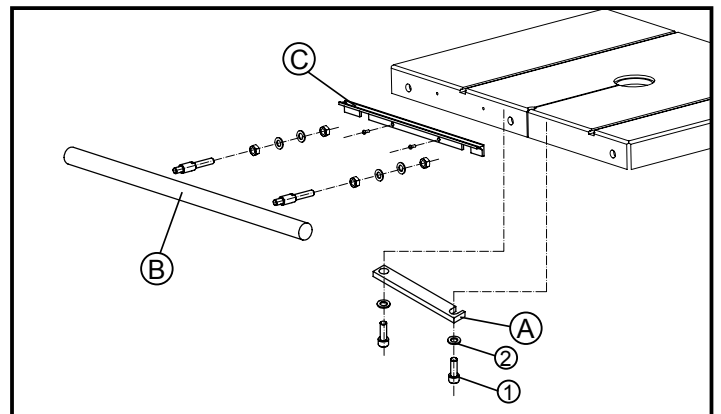

Fig.4.2.1
- Install the rip fence as the picture shown, then set the fence block A along the guide rail B-Fig.4.2.1.